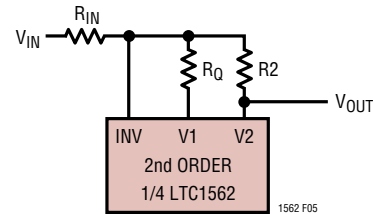
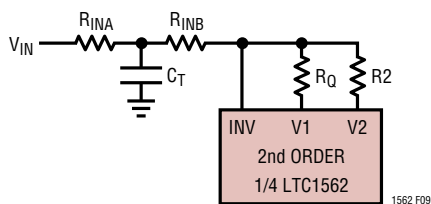

Figure 5. Basic Lowpass Configuration
Figure 9. Lowpass “T” Input Circuit
When  $Z_{IN}$  of Figure 3 is a resistor of value  $R_{IN}$ , a standard 2nd order lowpass transfer function results from  $V_{IN}$  to  $V_2$  (Figure 5):
- Lowpass response (resistor input, V2 output, Figure 5) with  $f_0 < 100\text{kHz}$
The virtual ground INV input in the Operational Filter block provides a means for adding an “extra” lowpass pole to any resistor-input application (such as the basic lowpass, Figure 5, or bandpass, Figure 6a). The resistor that would otherwise form  $Z_{IN}$  is split into two parts and a capacitor to ground added, forming an R-C-R “T” network (Figure 9). This adds an extra, independent real pole at a frequency: